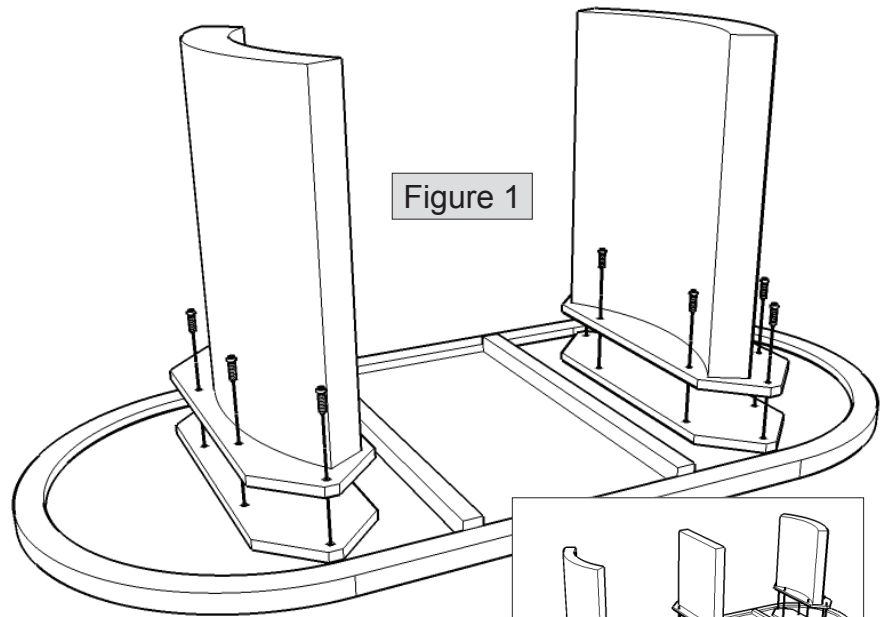

Figure 1
4. Attach panel bases to the tabletop using Allen bolts into threaded inserts as shown in figure 1. To insure proper alignment, do not tighten bolts until all 6 are started.